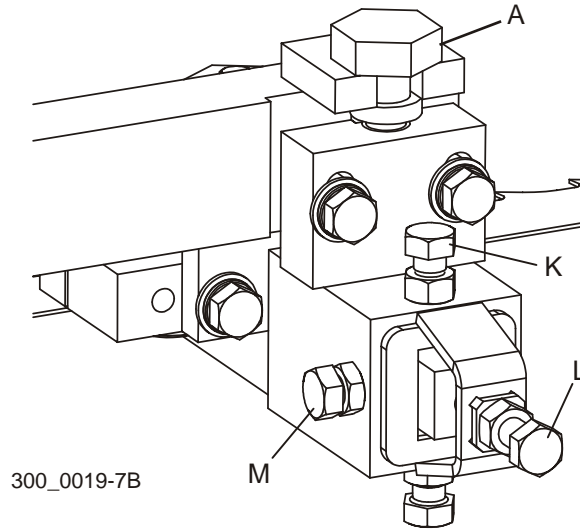

FIG. 5-39
See Figure 5-39. To adjust, loosen one bolt (K) and bolt (M). Slide the blade guide assembly in or out as necessary. Loosen the jam nut on bolt (L) and adjust the bolt until it